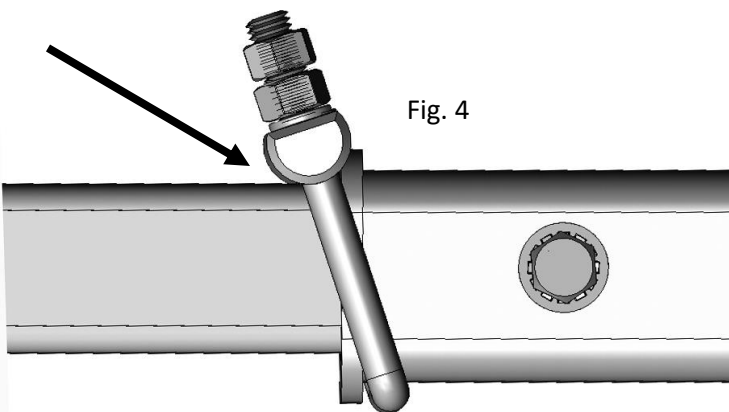

Fig. 4
4. Slide the clamp bar onto the legs of the U-bolt. Rounded surface of the clamp bar must be in contact with the flange and accessory tube per Fig. 4.